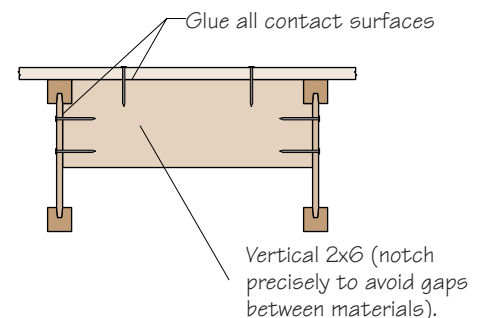

Figure 11
- Installing blocking between the flanges of the joists along the sheathing seams if the floor is accessible from below (Figure 11). Glue all contact surfaces and nail blocking carefully to prevent development of new squeaks.
- Another option is to “bridge” between the joists (Figure 11, page 4) and attach wall at blocking locations.